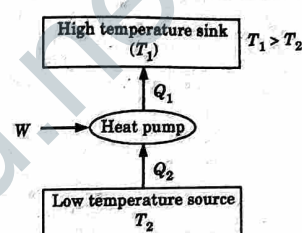

Fig. 1.20.1. A schematic diagram of a heat pump.
2. This transfer of heat from a low temperature body to a high temperature one is essentially a non-spontaneous process. And that calls for the help of an external work which is supplied to the heat pump (Fig. 1.20.1).